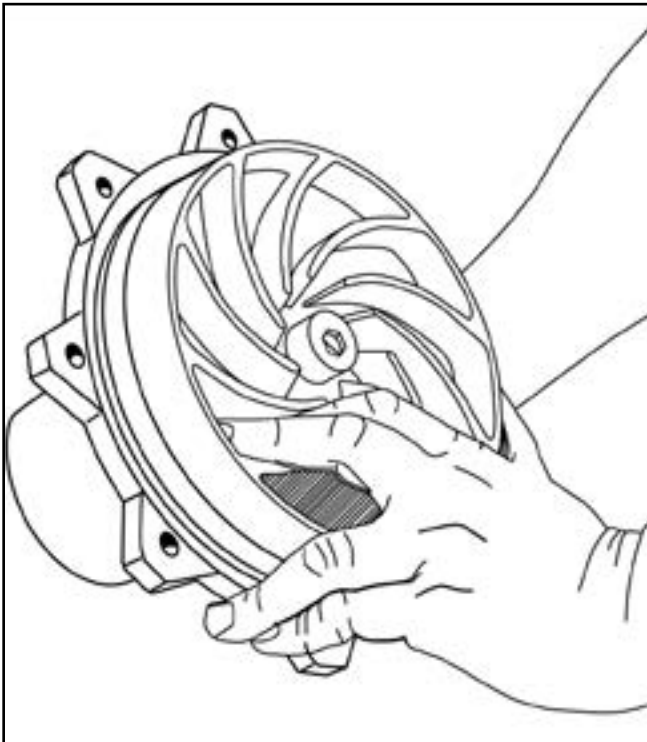

FIG. 19
6. Unscrew impeller, turn counter-clockwise to loosen. Fig. 19